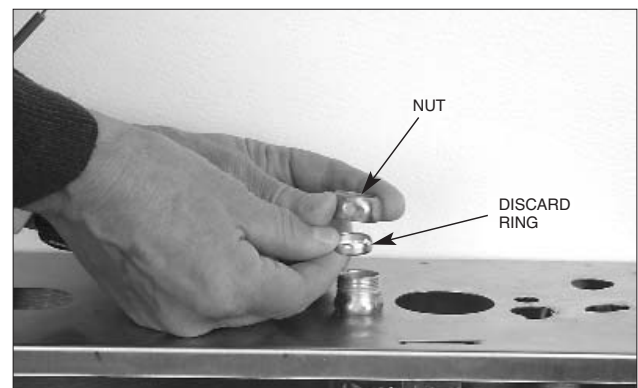

FIGURE 48
3. Unscrew the nut from the EMT conduit connector and remove the compression ring. Discard ring. See Figure 48.